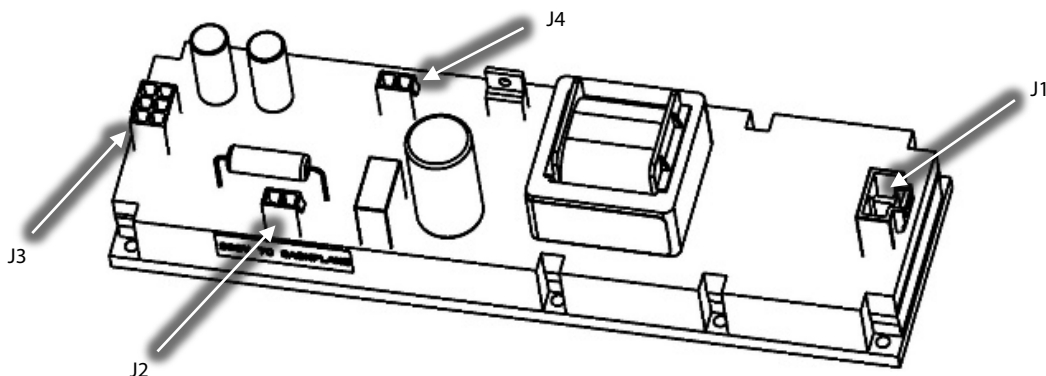

Figure 3 – Potted DC-DC Converter Connector Locations
1. Remove the four (4) connectors (DC Bus Input (J1), 250VDC (J2), 24VDC (J3), and 15VAC (J4)) from the DC-DC Converter. Refer to Figure 3 (Potted DC-DC Converter Connector Locations).